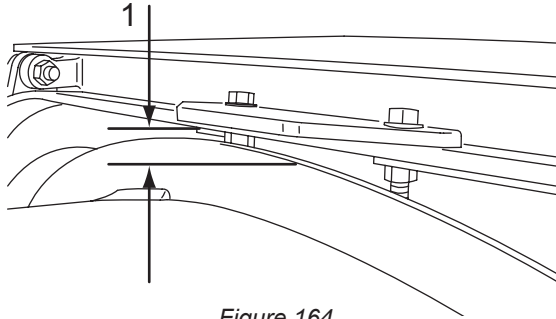

Figure 164
7. Check the debouncer-to-drip ring clearance (Figure 164, Item 1), the clearance should be 3/8 to 1/2 inch (10 to 13 mm) at the closest point.